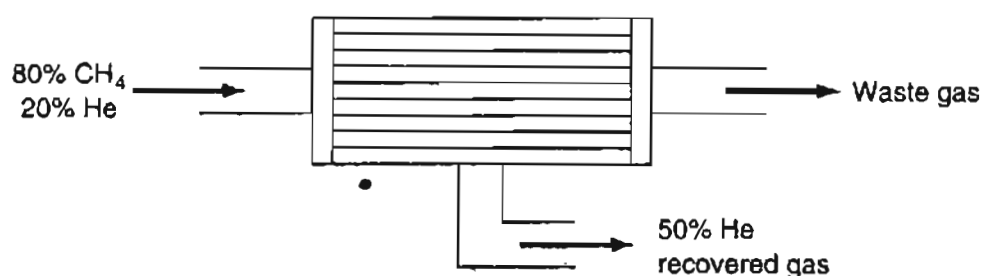

Figure P8.8
- ✓*8.8 A gas containing 80% CH_4 and 20% He is sent through a quartz diffusion tube (see Figure P8.8) to recover the helium. Twenty percent by weight of the original gas is recovered, and its composition is 50% He. Calculate the composition of the waste gas if 100 kg moles of gas are processed per minute.